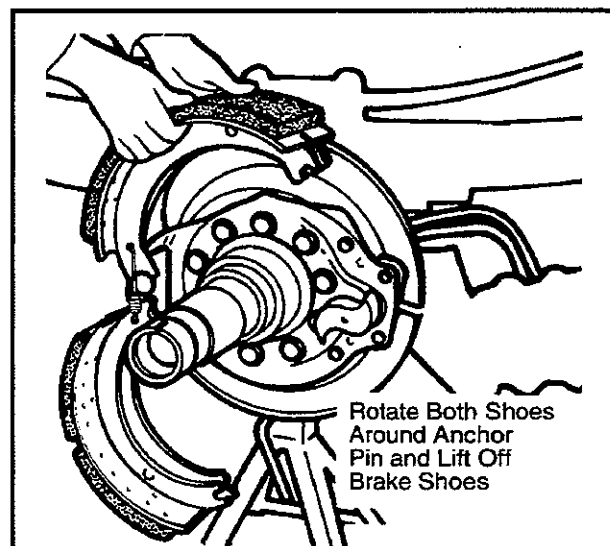

Figure 8—Rotate Shoes
10. Rotate both shoes around anchor pin and remove brake shoes. (See Figure 8—Rotate Shoes.)